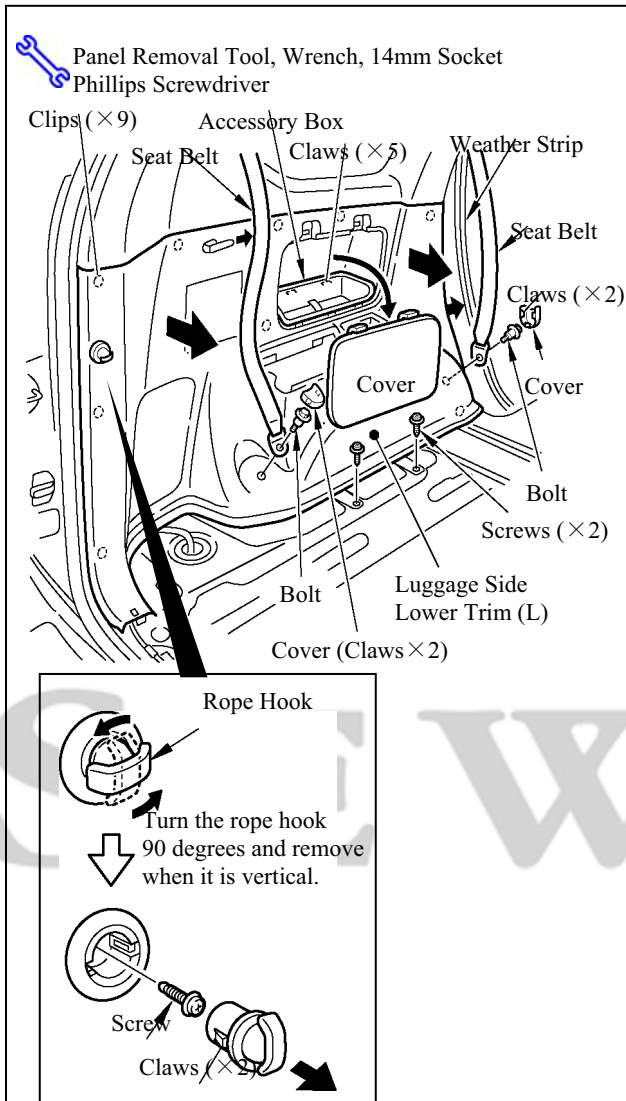

Fig. 2-19
Remove the luggage side lower trim (L) (Fig. 2-19).
(1) Remove the cover, then remove the accessory box.
(2) Remove the two (2) seat belts.